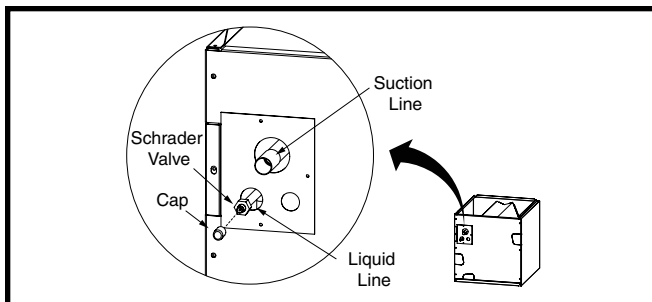

Figure 1. Suction & Liquid Line Locations
- Remove the cap (Figure 1) from the end of the liquid line.